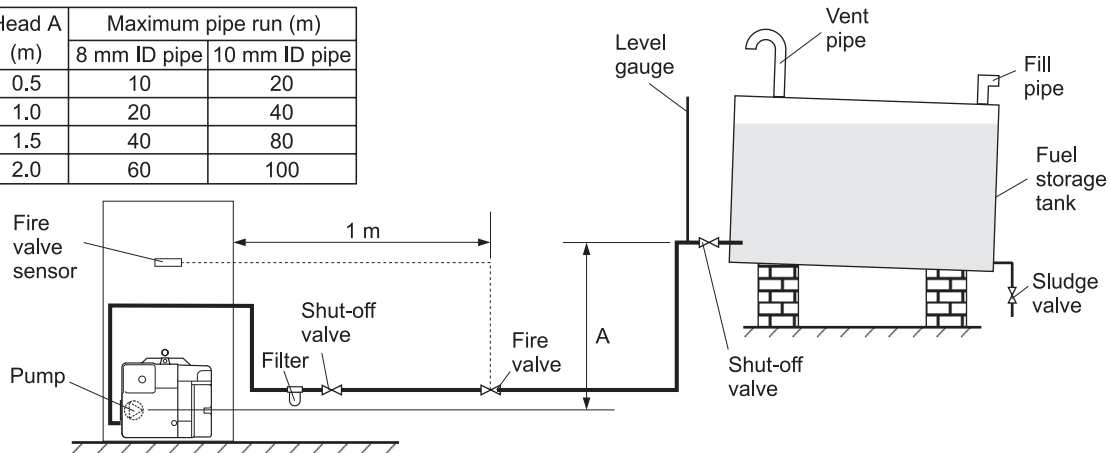

Fig. 2 - Single pipe system
- 5 A flexible fuel line, adaptor and $\frac{1}{4}$ " BSP isolation valve are supplied loose with the boiler for the final connection to the burner. If a two pipe system or Tiger Loop system is used, an additional flexible fuel line (900 mm) and $\frac{3}{8}$ " to $\frac{1}{4}$ " BSP male adaptor are available from Grant Engineering (UK) Limited.
3.4.3 Single pipe system - (See Fig. 2)